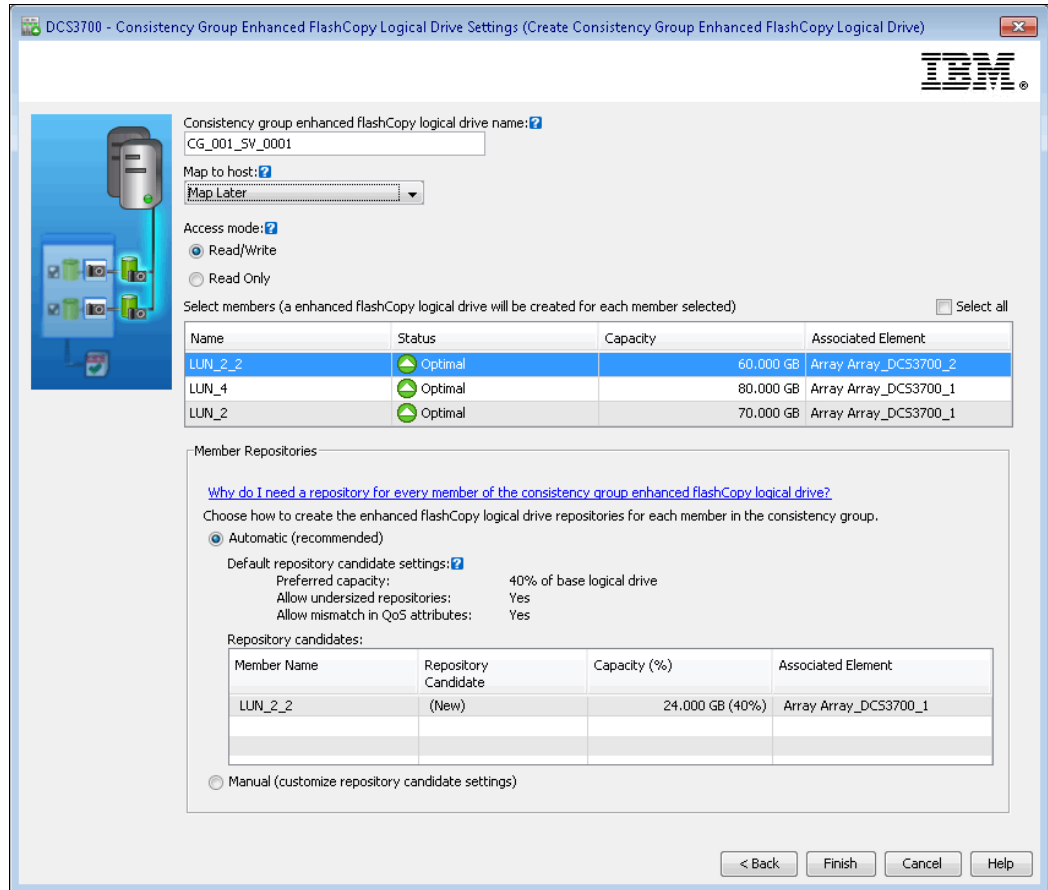

Figure 8-71 Create Consistency Group Enhanced FlashCopy Logical Drive Settings
- As shown in Figure 8-71, in the Consistency group Enhanced FlashCopy logical drive name field, enter a unique name (30 character maximum) that best describes the consistency group that is selected for this Enhanced FlashCopy image, for example, Accounting Data.